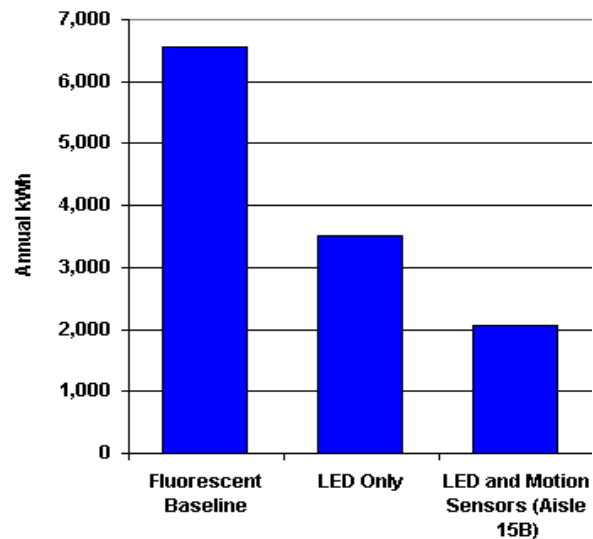

Figure 1: Savings comparison for freezer cases illuminated with Hussman Corporation's new LED lighting system with and without motion sensors.
- ✓ Reduced lighting energy consumption by an impressive 68% (compared to T8 fluorescent lamps and electronic ballasts (see Figure 1).